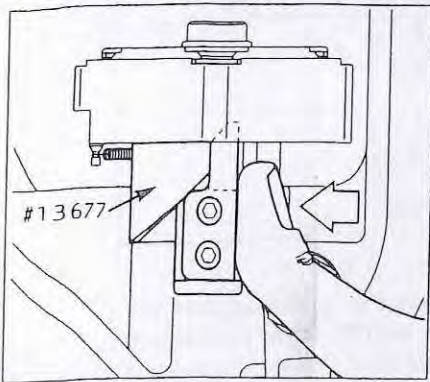
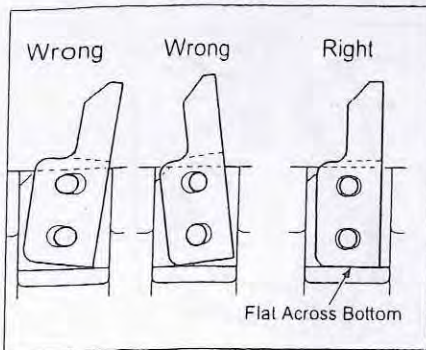

Fig. 8
Fig. 9
4. **NOTE:** Ensure that the handle is pushed against its full aft stop. Push the index cam firmly against the index ring (#13677) Fig. 8. While doing so, make sure the index cam remains straight up and down, not tilted in any way, Fig. 9.
5. While pushing the index cam rearward against the index ring, Fig. 8, firmly tighten the two index cam screws. Again, make sure that the index cam is straight up and down, Fig. 9, and that the handle is pushed against its full aft stop. Once the two screws are tightened, you can release the pressure on the handle.
moderate resistance to the rotating shellplate with your left hand. While holding pressure against the shellplate, continue to bring the handle all the way up until it is pushed against its full aft stop. At this point the primer punch will be extended up through the shellplate. With pressure held against the shellplate and the handle against its full aft stop, take a close look at the primer punch. If the primer punch is contacting the hole in the shellplate, then you were not pushing the cam hard enough against the index ring while tightening the two screws, Fig. 8. If the primer punch is centered in the shellplate primer hole then your adjustment is good.